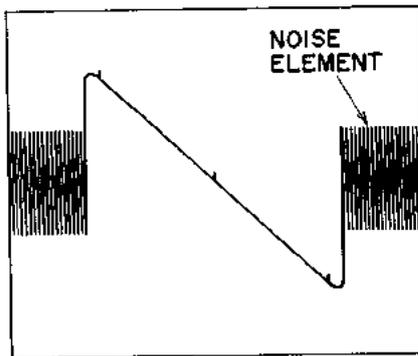

Fig. 8
- 4) Adjust the upper core of Front End IF Coil (see Figs. 18,21) to obtain maximum wave height value of S Curve in Fig. 8, and adjust the lower core to obtain maximum noise level.